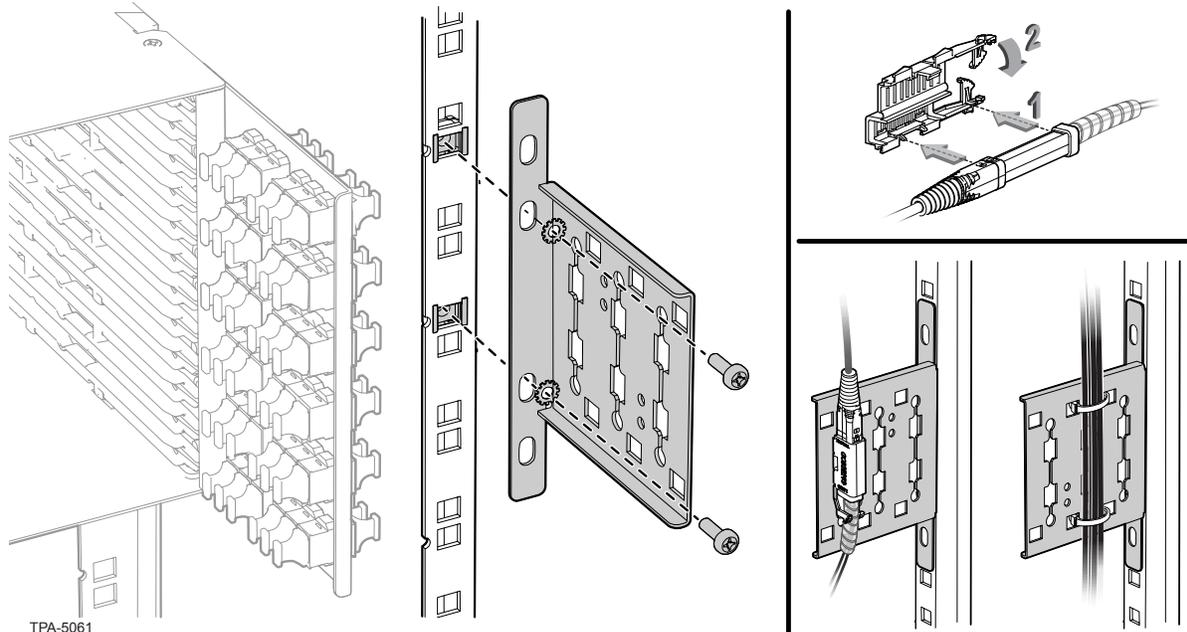

Figure 3
**Step 3:** Attach the strain-relief bracket to the frame (Figure 3).